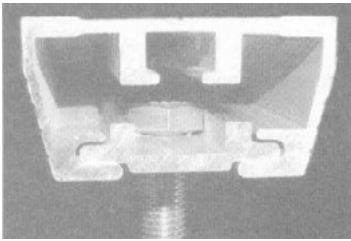

figure 2
2. Place the 8mm bolt into the slide plate. Slide the plate and bolt into the mounting extrusion. See figure 2.